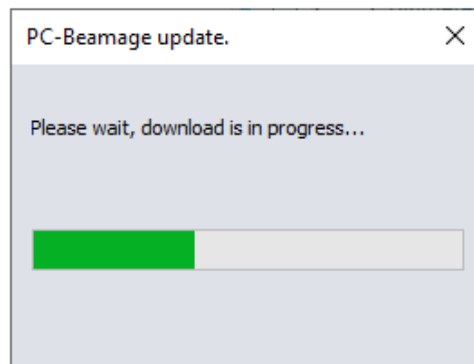

Figure F-2 PC-Beamage Update
- 2) Click on the "Yes" button to start the download of Beamage Installer. The Beamage Installer contains the new version of PC-Beamage, see Figure F-2